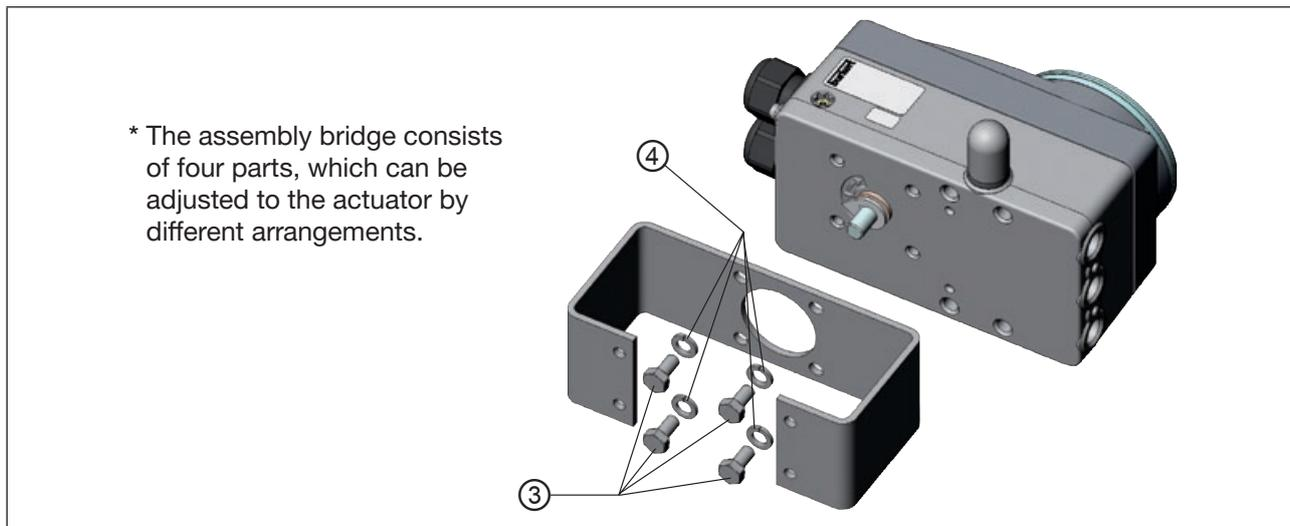

Figure 16: Attaching the assembly bridge (schematic representation)
→ Attach the assembly bridge by 4 hexagon bolt ③ and circlips ④ to Type 8792/8793 (see "Figure 16").